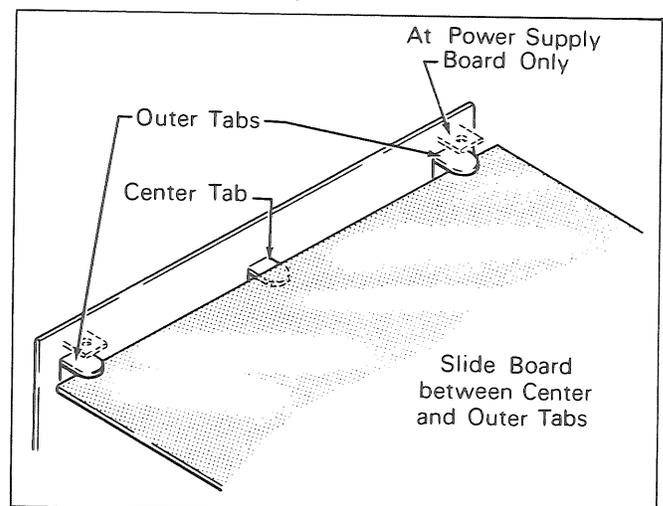

Fig. 6 Typical support arrangement at rear edge of circuit board
8. When replacing this board, be sure board is sandwiched between the center tab and two outer tabs on the chassis at the rear edge of the board as shown in Fig. 6.
- When replacing board, make sure rear edge of board is sandwiched between the center tab and two outer tabs of the chassis, per Fig. 6.
- When replacing board, make sure rear edge of power supply board is sandwiched between the center tab and outer rounded tabs (not the square tabs) on the chassis per Fig. 6.